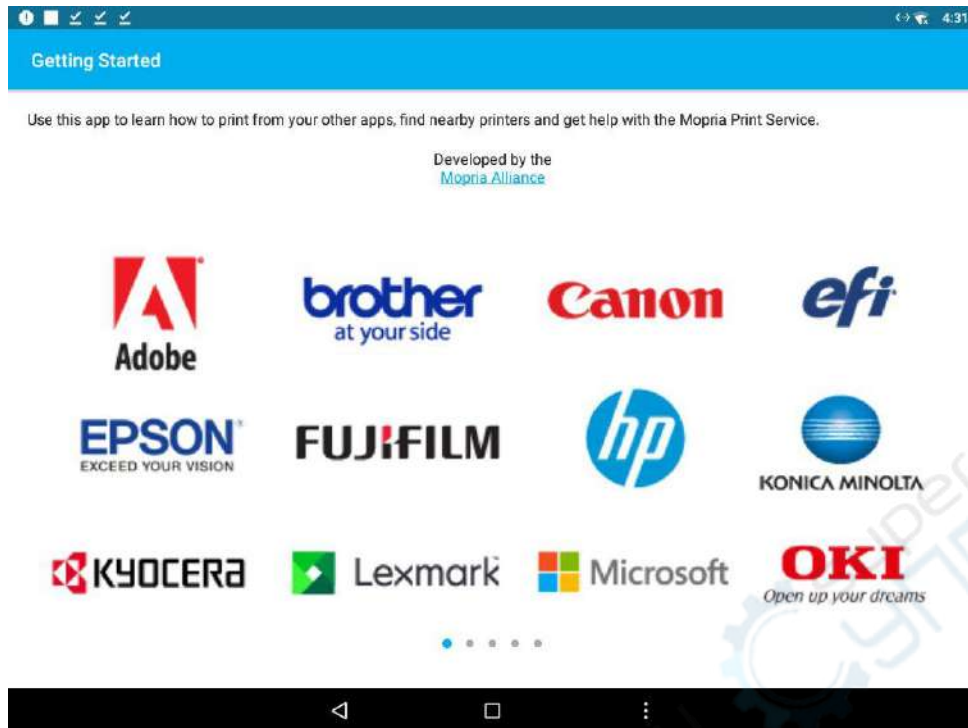
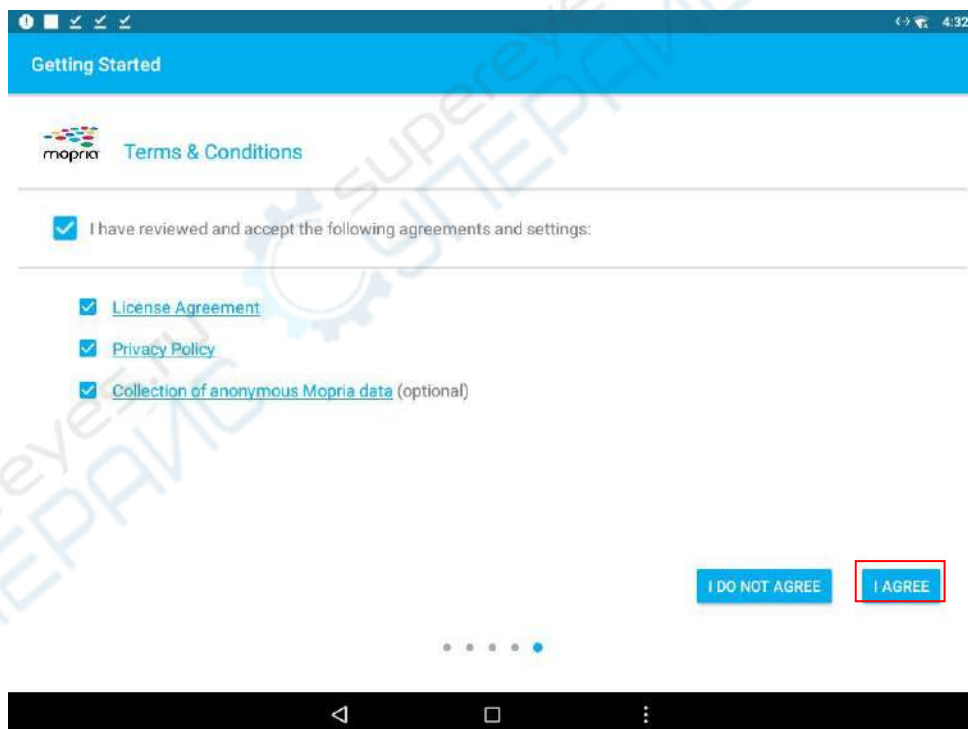

Figure 6
Figure 7
3、 Open the installed printing software, as shown in Figure 6. Go to the last page and check "Agree" license agreement and privacy policy. Click "I agree" to start using the software, as shown in Figure 7.